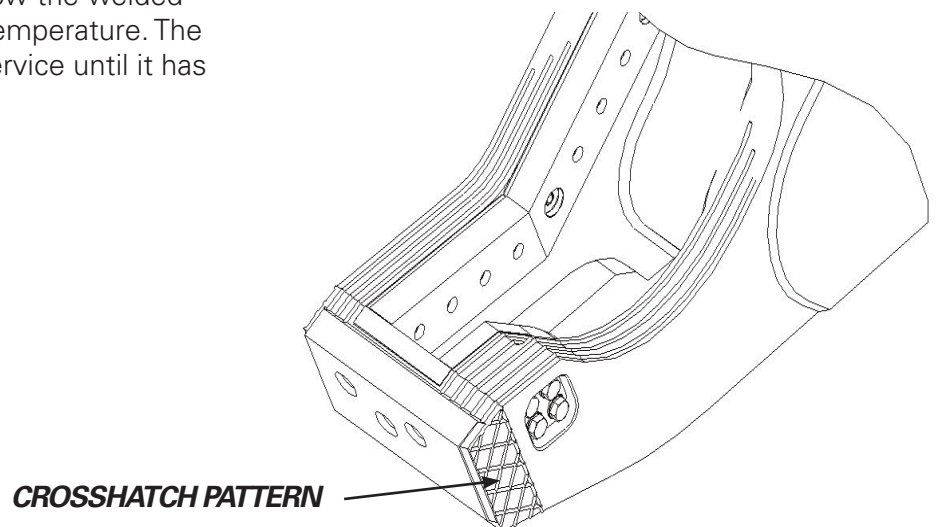

FIGURE 5-39
10. Use a similar technique to hardsurface the sides of the nose plate. Establish a 45° diamond pattern of approximately 1-1/2" (38 mm) (see **Figure 5-39**). Again, use the build-up rod to lay down the pattern and use the hardsurface rod on top. Use the air-operated slag peener to peen each pass to relieve weld stress and remove slag.